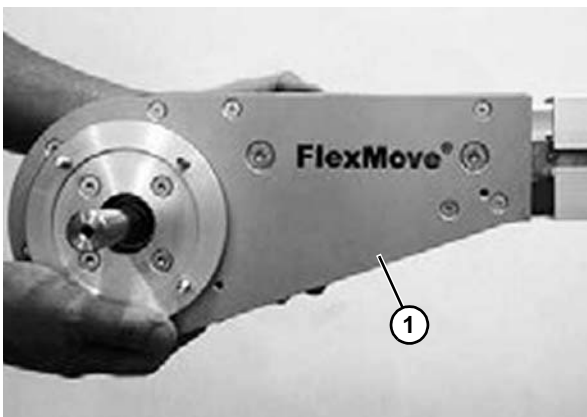

Figure 24
1. Mount the end drive unit (Figure 24, item 1) on to the end of the conveyor: Release the four set screws that are inserted into the drive unit connecting strips. Insert the connecting strips into the T-slot of the beam you want attached to the end drive unit. Make sure that the set screws do not prevent the connecting strips from sliding into place.